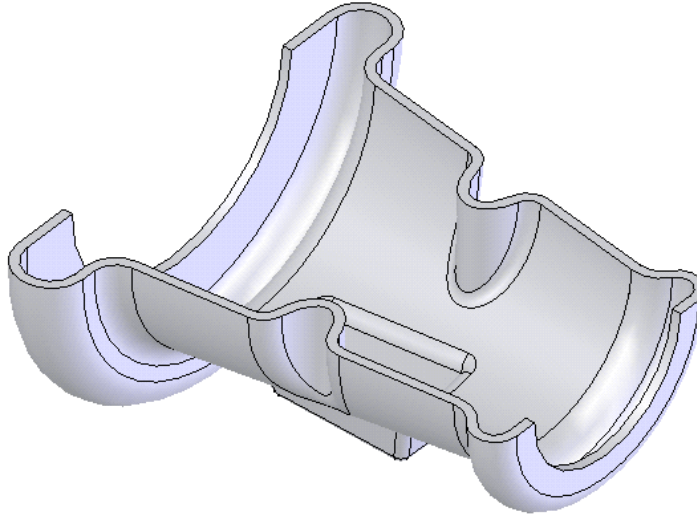
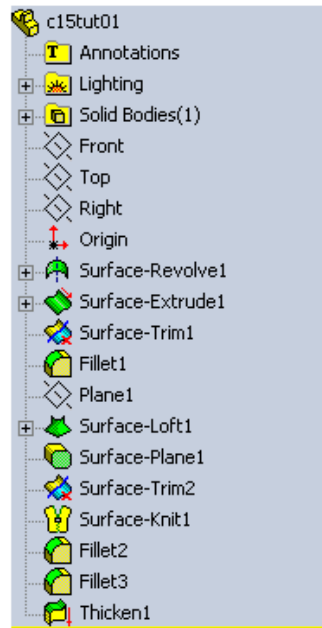

Figure 15-115 Final model
Figure 15-116 FeatureManager Design Tree
- j. Add the thickness to the knitted surface, Figure 15-115.
Figure 15-115 shows the final model after thickening the surface. Figure 15-116 shows the **FeatureManager Design Tree** of the model.